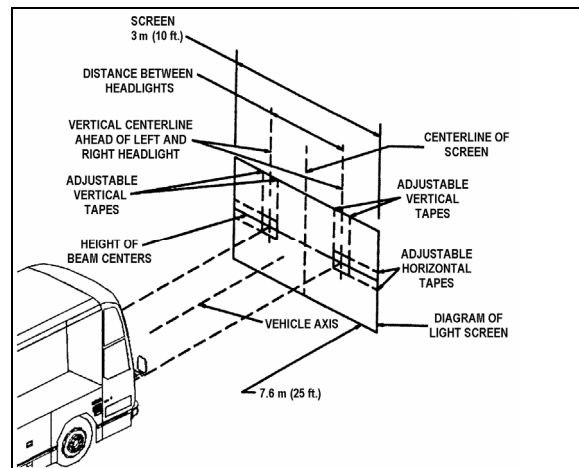

FIGURE 26: ALIGNMENT OF HEADLIGHT AIMING SCREEN
3. The headlight centerlines shall be spaced either side of the fixed centerline on the screen by 1/2 the lateral distance between the light source centers of the pertinent headlights. The horizontal tapes should be located on the screen at the upper and lower limits called for in the specification with reference to the height of beam centers and the plane on which the vehicle rests, not the floor on which the screen rests (Fig. 26).
5. High beam headlights are aimed so that the center of the high-intensity zone is located at the horizontal and straight ahead vertically (Fig. 26).